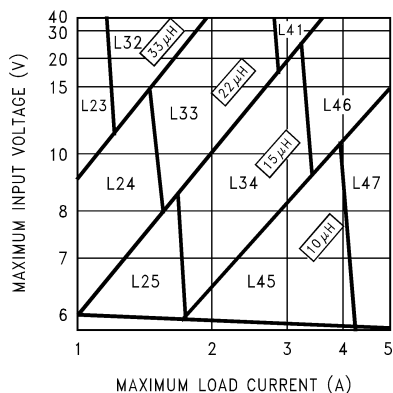
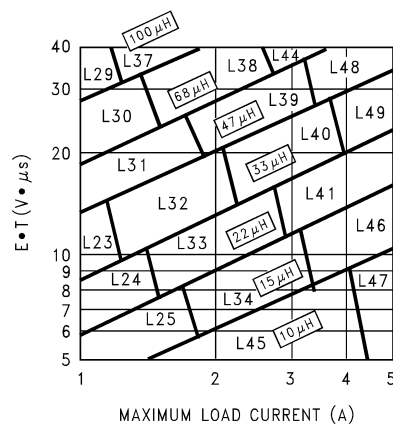

Figure 21. LM2678-3.3
Figure 24. LM2678-ADJ
Step 3: Determine the inductor required by using one of the four nomographs, Figure 21 through Figure 24. Table 1 provides a specific manufacturer and part number for the inductor.
Step 5: Determine an input capacitor from Table 6 for fixed output voltage applications. Use Table 3 to find the specific capacitor type. For adjustable output circuits select a capacitor from Table 3 with a sufficient working voltage (WV) rating greater than $V_{in\ max}$, and an rms current rating greater than one-half the maximum load current (2 or more capacitors in parallel may be required).
Step 3: Use the nomograph for the 3.3V device, Figure 21. The intersection of the 16V horizontal line ($V_{in\ max}$) and the 4A vertical line ($I_{load\ max}$) indicates that L46, a $15\mu H$ inductor, is required.
Step 3: To use the nomograph for the adjustable device, Figure 24, requires a calculation of the inductor Volt•microsecond constant ($E \cdot T$ expressed in $V \cdot \mu s$) from the following formula:
Using Figure 24, the intersection of $27V \cdot \mu s$ horizontally and the $3.5A$ vertical line ($I_{load} \max$) indicates that L48, a $47\mu H$ inductor, or L49, a $33\mu H$ inductor could be used. Either inductor will be suitable, but for this example selecting the larger inductance will result in lower ripple current.
When using the adjustable device in low voltage applications (less than $3V$ output), if the nomograph, Figure 24, selects an inductance of $22\mu H$ or less, Table 12 and Table 13 do not provide an output capacitor solution. With these conditions the number of output capacitors required for stable operation becomes impractical. It is recommended to use either a $33\mu H$ or $47\mu H$ inductor and the output capacitors from Table 12 and Table 13.